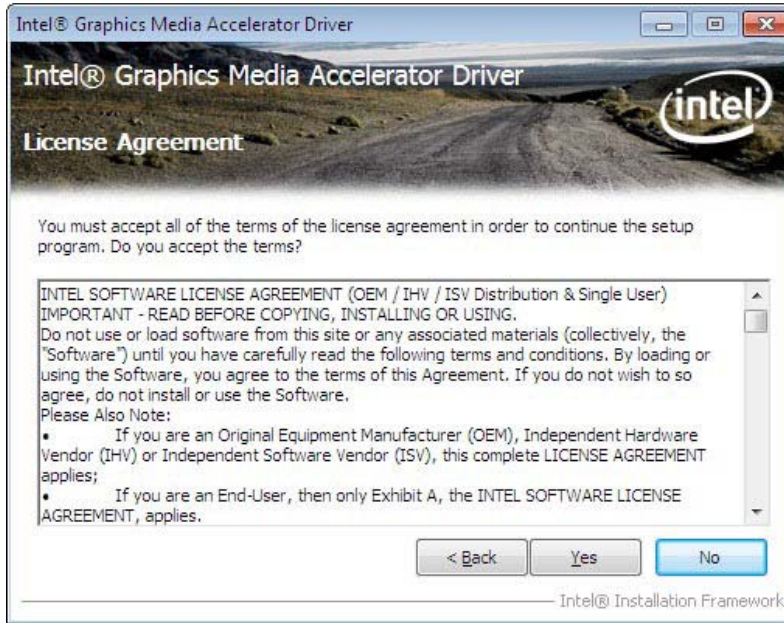

Figure 6-9: VGA Driver License Agreement
Step 7: The license agreement in **Figure 6-9** appears.